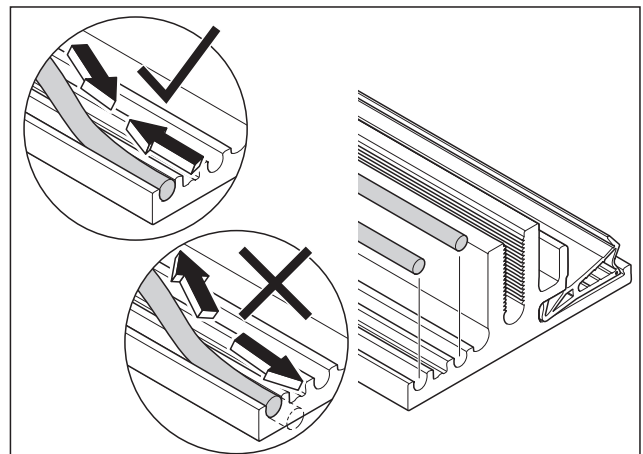

Fig. 22 Example of attaching silicone seals to a profile
1. Provide all profiles (see Chapter 3.4) with silicone seals before mounting (Fig. 22).